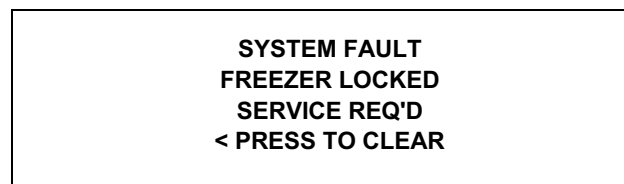

Figure 35
2. There has been a thermistor failure (freezing cylinder, hopper, or glycol) during the heat treatment process. (See Figure 35.)